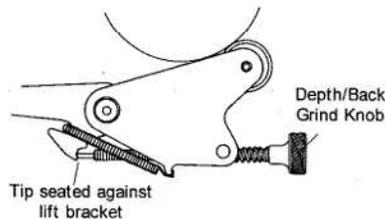

FIGURE 4-8. DEPTH/BACK GRIND ADJUSTMENT KNOB.
See Figure 4-8. Use the depth/back grind knob to raise or lower the wheel so it lightly touches the gullet. Turn the knob in to raise the wheel and turn the knob out to lower the wheel.
**CAUTION:** Always be sure the tip of the depth/back grind knob stays seated against the lift bracket as shown in Figure 4-8. The grinding wheel will damage the blade if the tip becomes unseated.